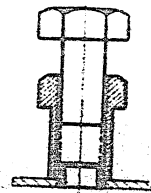

Fig. 22
c) screwing out the 1st and 2nd stage valve seats, scavenging pump and water pump from their recesses by means of a special tool (Fig. 22);